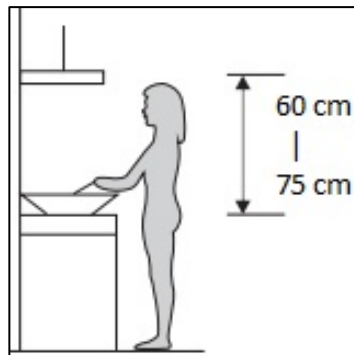

Fig.2
- The rangehood should be installed at a distance of 60-75cm from the cooking surface for the best air movement performance. (See Fig.2)